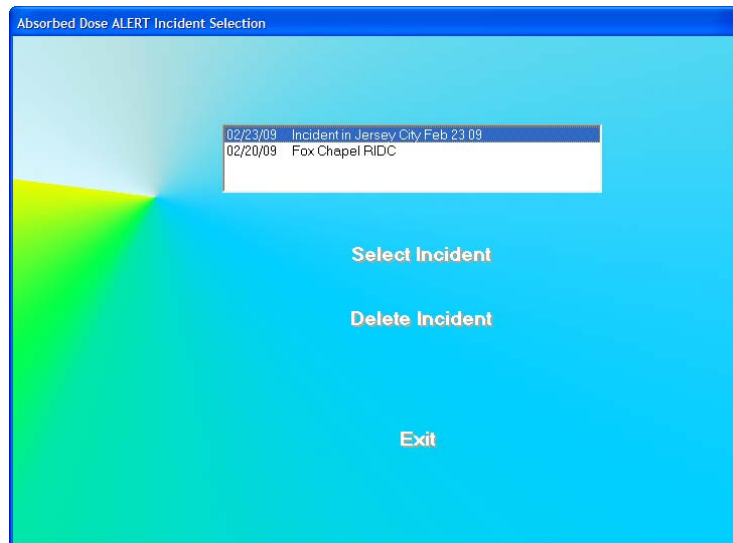

Figure 9-8
- To select an incident, click on the incident name in the list box on Figure 9-7 Incident Selection Screen. The Incident name will become highlighted and the **Select Incident** and **Delete Incident** buttons will become enabled as shown in Figure 9-8.